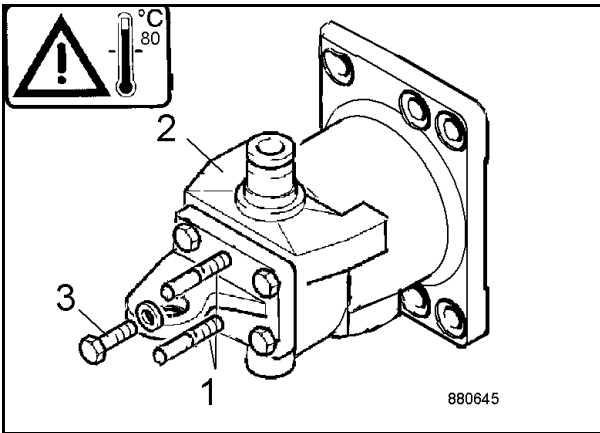

Fig. 12
18. Attach the cross-member 2 (Fig. 12) to the oscillating axle, unscrew the threaded rods (1) from the oscillating axle and pull the cross-member with screws (3) bis tightly against the oscillating axle. Then allow the cross member to cool down.